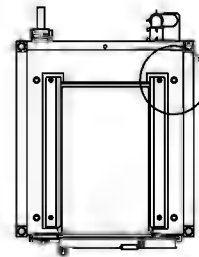

FIGURE 1
Remove drain containment pan from the bottom of unit(s). Unscrew to remove adjustable legs from base of Vortex unit(s). Unfasten nuts and bolts on stand platform(s). Place Vortex unit(s) on stand platform. Align the (4) leg holes with the holes in the platform. Secure Vortex unit(s) to stand platform(s) using bolts and washers provided in step 2 as shown in detail "A" of figure 1 on page 7.
By loosening the left screw and removing the right screw provided, mount steam exhaust bracket assembly to the back panel of the top Vortex unit as shown in detail "B" of Figure 1 on page 7. Attach the steam exhaust hose from the bottom Vortex unit's steam outlet tube to the top Vortex unit's steam exhaust bracket assembly using hose clamps provided as shown in figure 2 on page 7. (Note: Steam exhaust hose may need to be cut to fit.)